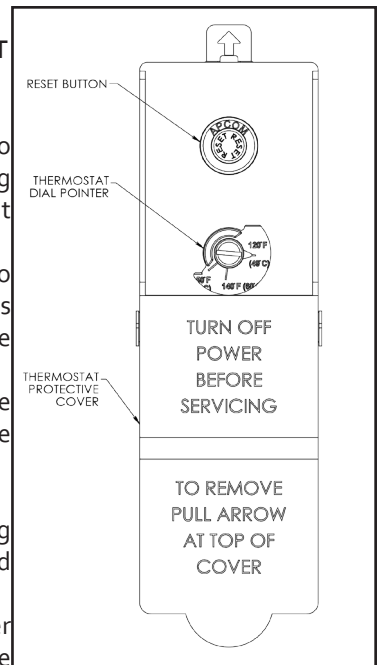

Figure 11 - Detail of Step #4
**IF YOU NEED TO ADJUST THERMOSTAT(S) OR RESET THE ECO (RED RESET BUTTON)**
**STEP #4 - See Figure 11**